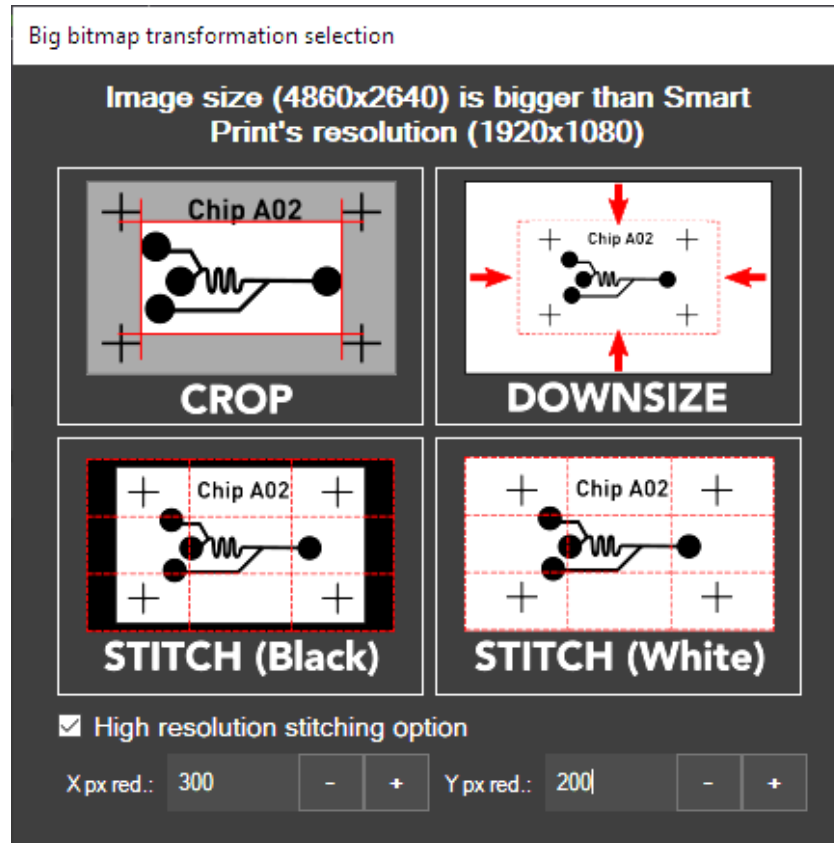

Figure 17 – “Big bitmap transformation selection” popup dialog
If at least one dimension is higher than the standard dimensions, a message will pop-up when the drawing is added to the drawing list (Figure 17). Three options are then available:
- Add a bitmap drawing on the drawing list by clicking on the **ADD A DRAWING** button then select **STITCH (Black)** or **STITCH (White)** on the **Big bitmap transformation selection** popup dialog (Figure 17).
**NOTE ON “HIGH RESOLUTION” STITCHING:** If the high-resolution option is checked on the popup dialog Figure 17, the image will be sliced in smaller sub-images to reduce the impact of the optical geometrical aberrations and then increase the overall quality of the lithography. Yet, the increased number of sub-images will result in a higher number of field connection with their intrinsic error. The key parameters **X px. red.** and **Y px. red.** respectively reduce the width and the height of each sub-image. High resolution mode is highly recommended when patterns are relatively small compared to the size of the projected pixel (typically smaller than 5 times the pixel size).